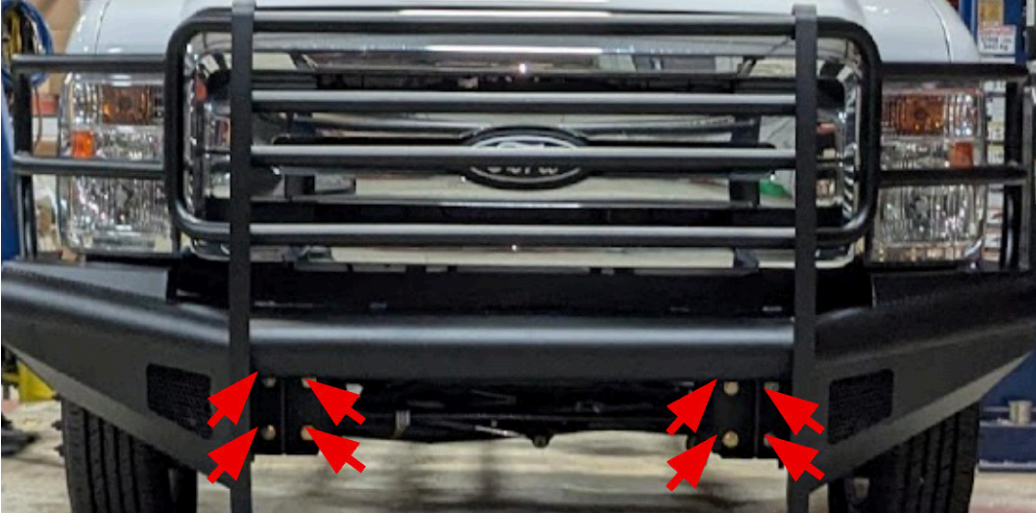

Figure 13
13. With assistance, hold the bumper shell (Part#: 23453) up to the vehicle and install it using eight (8) of the provided 1/2"-13 x 1.5" hex head cap screws, flat washers, lock washers and nuts. Figure 13